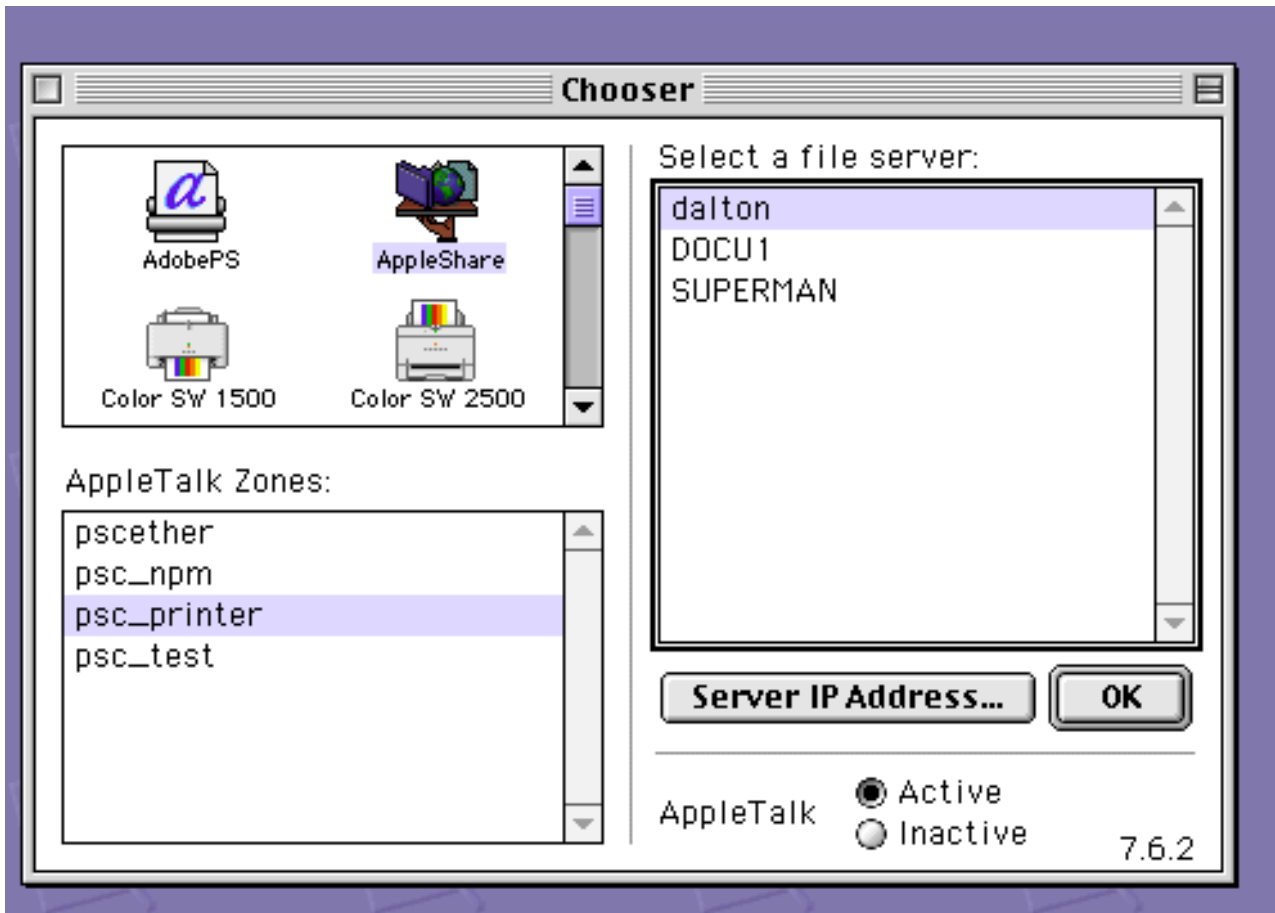

Figure 38. Chooser selections
- To connect to the shared directory folder on the Infoprint AIX server, use Chooser (see Figure 38 on page 148).